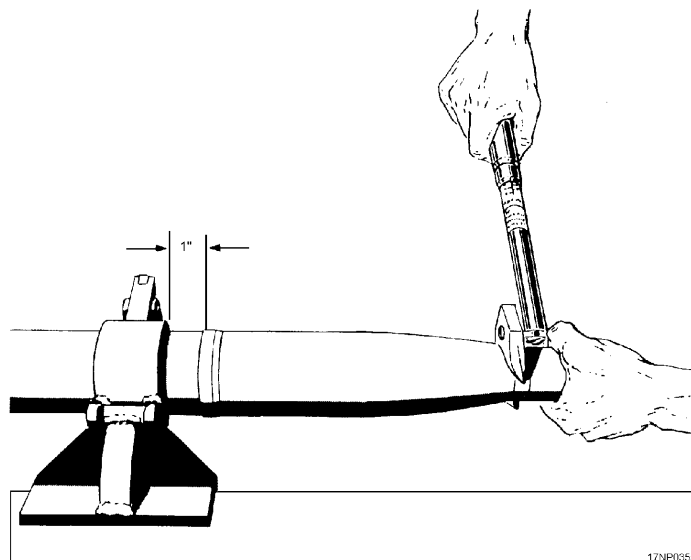

Figure 13-24.—Holding fixture assembly.
1. Place rocket motor body in holding fixture (fig. 13-24).
3. Apply the specified torque to the warhead by using a crowfoot adapter and torque wrench (fig. 13-24).